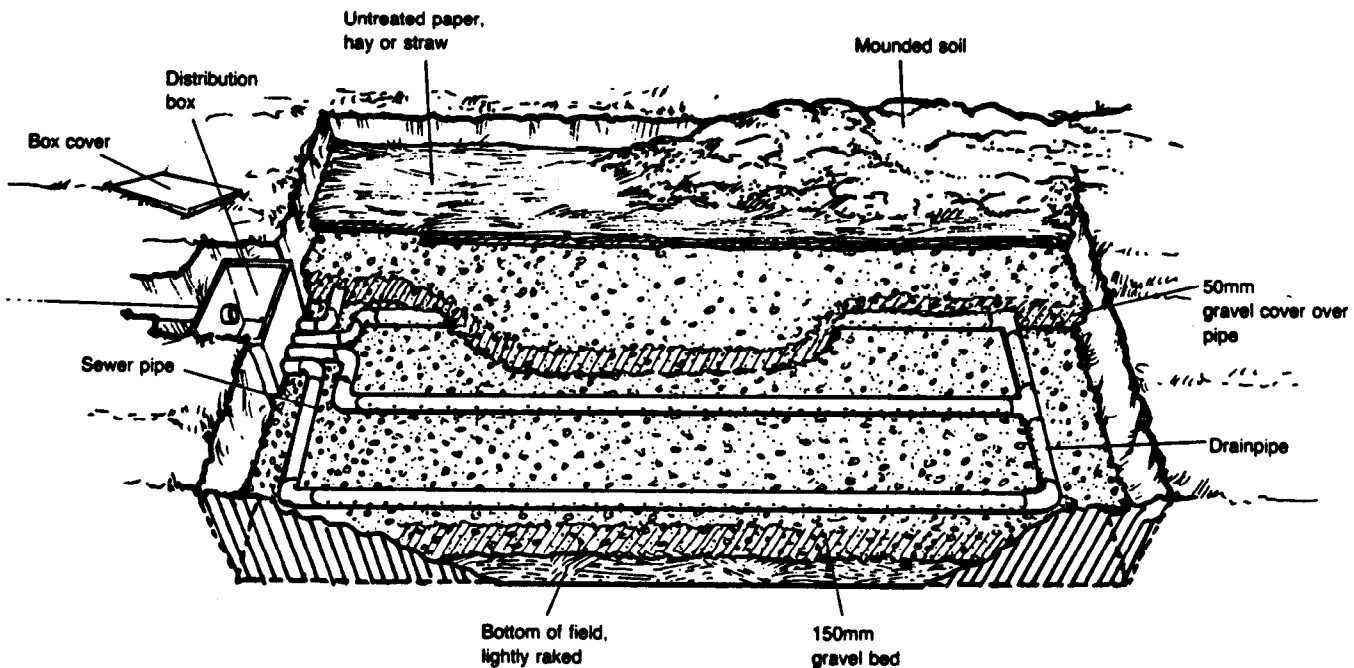

Figure 12. Absorption Field
7. Lay the drainpipe on the gravel to the length and configuration shown on the technical drawing in Figure 12. If perforated pipe is used, the perforations must face downward. If open-joint pipe is used, do not mortar the joints. Leave a space of 12 to 25mm between each pipe section. However, do mortar the joints where the drainpipes connect with the sewer pipes and at all "T" and "L" fittings at the